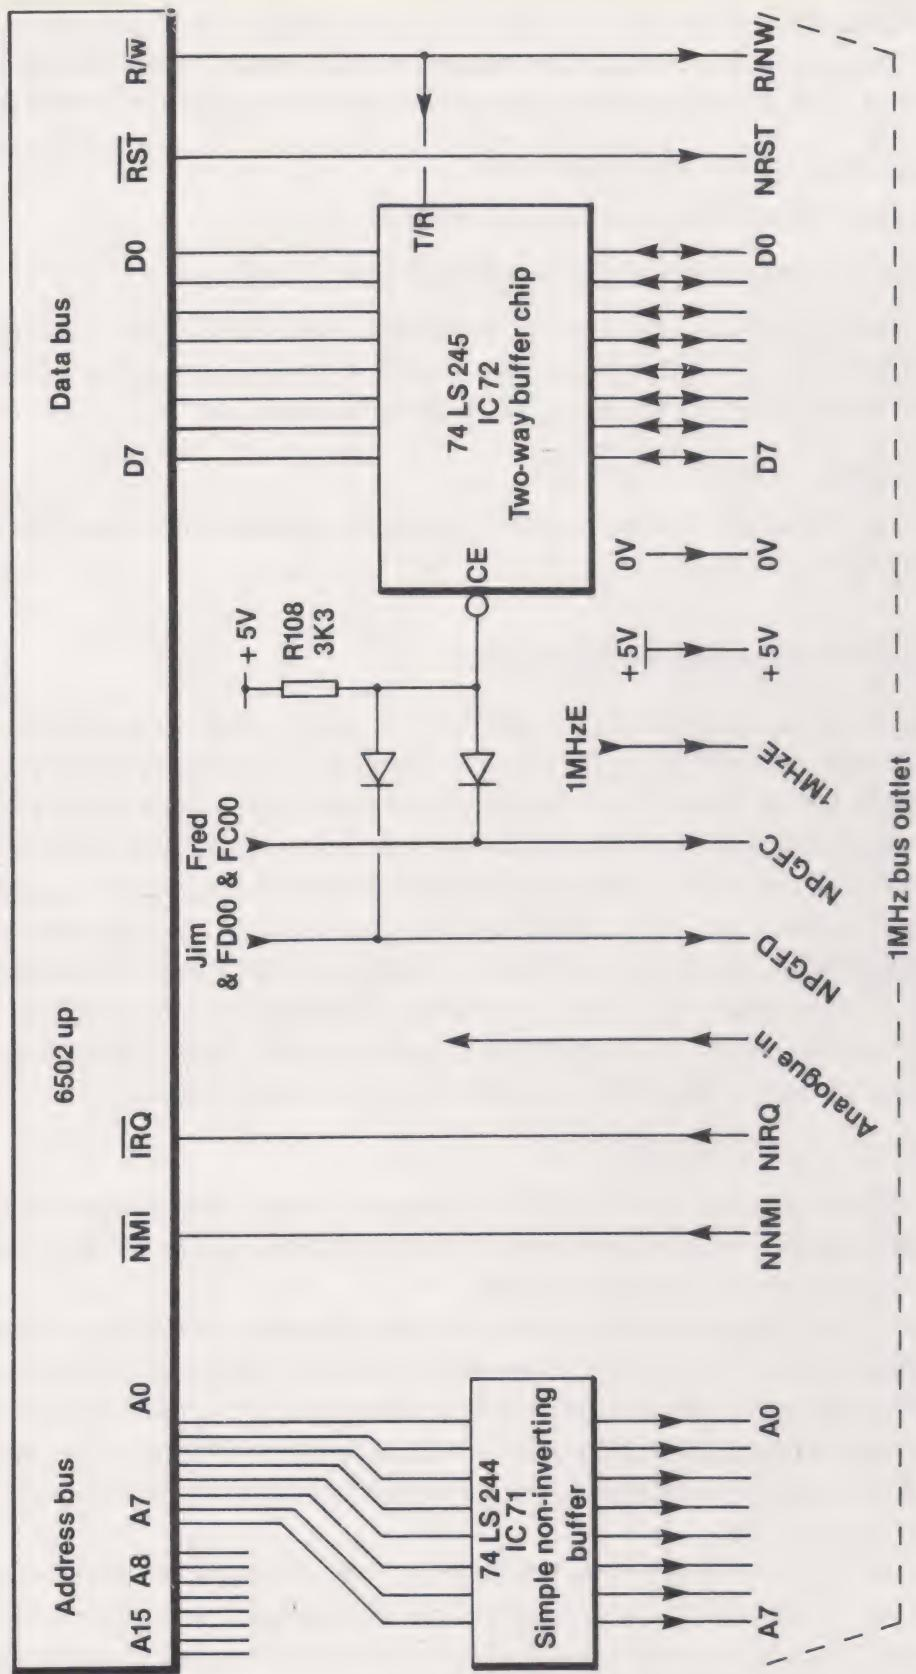
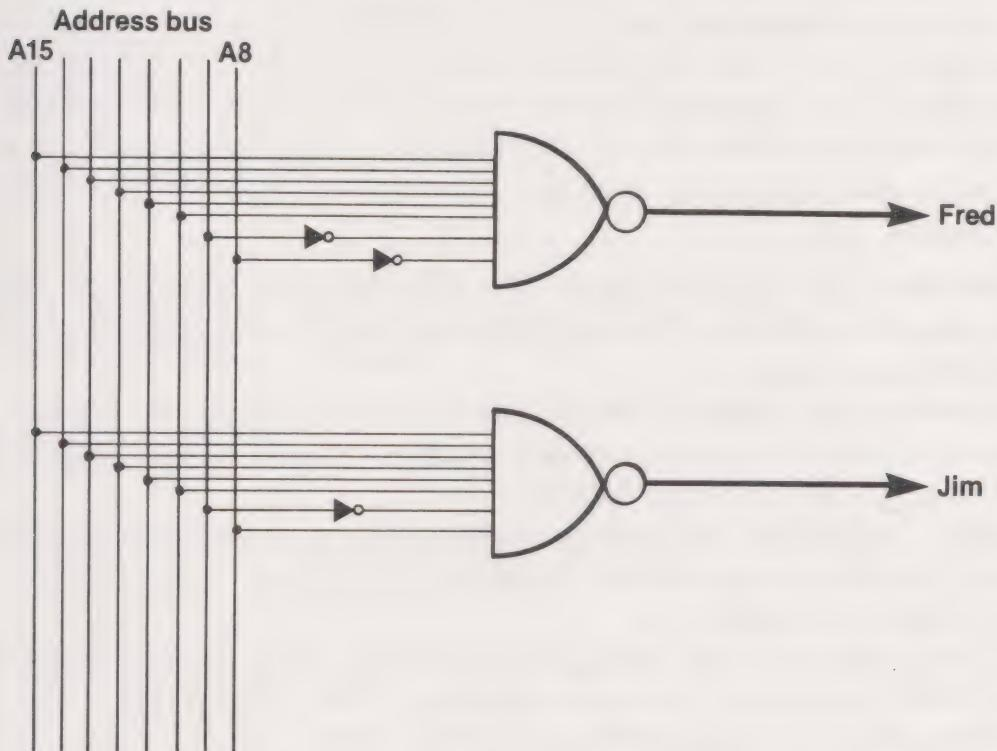

Fig. 1.4 Simplified drawing of the 1 MHz bus.
Fig. 1.5. Decoder for producing Fred and Jim.
Page 503 of the User Guide gives a diagram of the connections to the 1 MHz bus. However, a scaled down version is shown in Fig. 1.4 which tends to emphasise the decoding problem.
The address and data buses are well-defined entities. By comparison, the control lines of any computer system always seem an unruly mess. Odd-looking single lines carrying funny labels appear to wander around different parts of the microcomputer in an undisciplined manner. The sheer complexity of the complete microcomputer wiring means that only parts of it can be shown at once. This means that some of the control lines appear to end abruptly, only to appear again on another diagram, apparently starting from nowhere! To assist bewilderment, some of the address wires may be used to 'control' and data wires may even be used for addressing purposes. There are no short-cuts to understanding, it's merely a case of methodical plodding through each control and gradually becoming accustomed to the strange-looking abbreviations. Referring to Fig. 1.4 again and dealing with the easier parts first:
Fred and JIM (labelled as NPGFC and NPGFD respectively) NPGFD stands for Not PaGE FD, indicating that it is logic 0 active. Earlier discussions on FRED and JIM described them as particular pages (&FC and &FD) in memory. It now seems odd that single wires should have similar names. The answer is that the data lines D0 to D7 on the 1 MHz bus must only be activated when either of these pages are addressed – that is to say, only when the higher order pair of the hex digit addresses are FC or FD. Figure 1.4 gives no indication of the source of the FRED and JIM wires, but it is evident that they must somehow be fed from a decoder which senses when the higher order address lines (A8 to A15) carry the binary code corresponding to &FC or &FD. Full technical drawings of the BBC machine are difficult to obtain, so Fig. 1.5 is offered as one way the decoding might have been arranged.
Referring back to Fig. 1.4, the Jim and Fred lines are fed, via two diodes, to the chip enable (CE) pin on the two-way data buffer. Note that this pin has a tiny 'bubble' at the input which is a standard symbol indicating that reverse logic is required. (This explains why a NAND instead of an AND
gate was used in Fig. 1.5.) Thus, the data bus is only routed to the 1 MHz bus when the chip is enabled by prior selection of Fred or Jim.